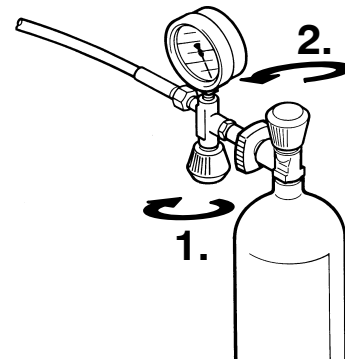

Abb. 9 Filling air bottle
- Open filling valve (1, Abb. 9).
- Open bottle valve (2) - bottle will be filled. Drain condensate regularly during filling. On units with automatic condensate drain check that condensate is drained regularly.